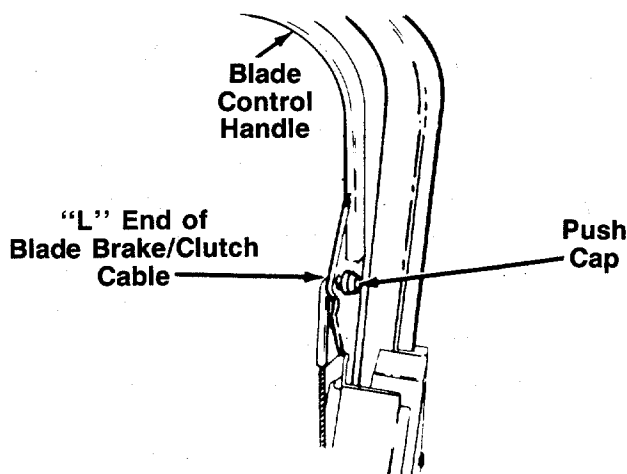

FIGURE 4.
4. Insert the "L" end of the blade brake/clutch cable into the hole in the blade brake/clutch control handle, from the inside to the outside as shown in figure 4. Hold the end of the cable, and press push cap on by hand.